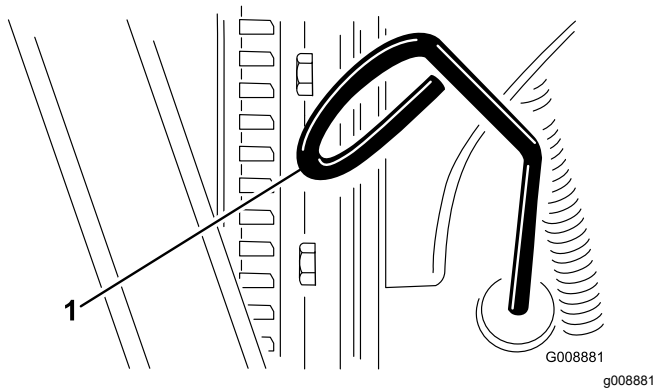

Figure 52
2. Remove the dipstick (Figure 52) and wipe it with a clean rag.